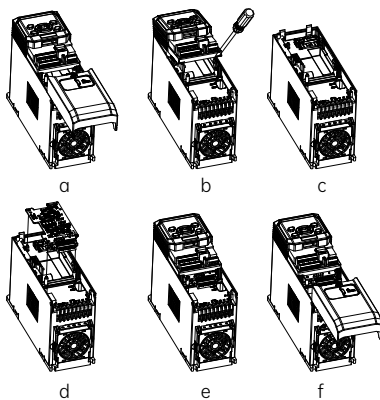

Fig. 2-3 Position 1 - PG card installation steps
- (1) When the drive is powered off, press the granulated part on the middle-upper of the lower cover, and slide it down firmly to take down the cover, as shown in Fig. 2-3 a.
- (2) Use a straight screwdriver to pry open the two snap-fit joints between the control box and the drive, and then remove the control box upwards, as shown in Fig. 2-3 b and c.
- (3) Install the PG*1S card: Hold the PG*1S card with its terminal block downwards, then align the three round holes on the PG*1S card with the location column, and press down to buckle the PG*1S card firmly into the four snap-fit joints, as shown in Fig. 2-3 d.
- (4) After the PG card is installed, align the control box with the snap-fit joints, and press down the control box to make its lower part firmly buckled, then slide the lower cover to lock it on the drive, as shown in Fig. 2-3 e and f.